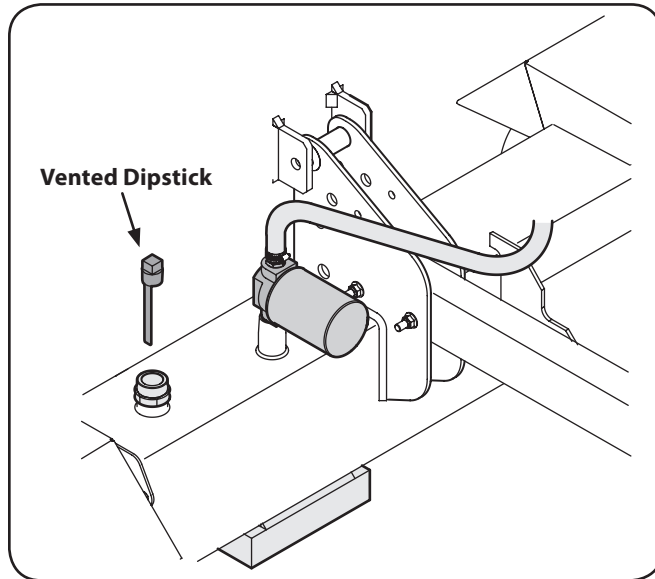

Figure 3-11
2. Remove the vented reservoir dipstick, which is located next to the hydraulic filter on top of the reservoir tank. See Fig. 3-11.